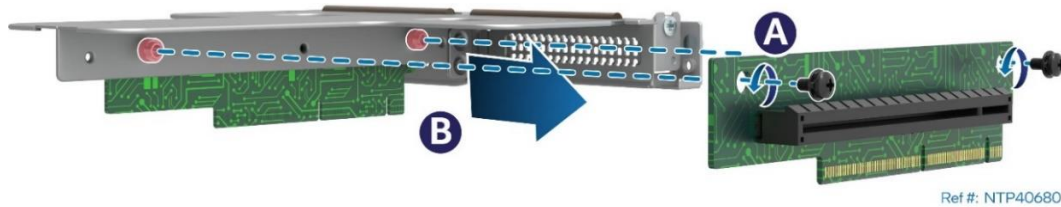

Figure 78. Riser Card Removal from Bracket
6. Remove the riser card from the riser card bracket (see Figure 78).